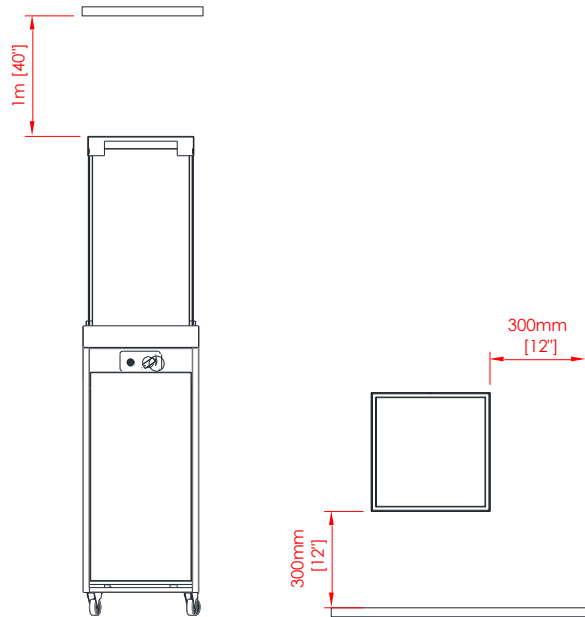

Fig 2 – Minimum distances
- This appliance must be kept away from flammable materials during use. Do not place any combustible materials within a distance of 0,3 m of FARO and 1 m over the appliance (*Fig 2*).